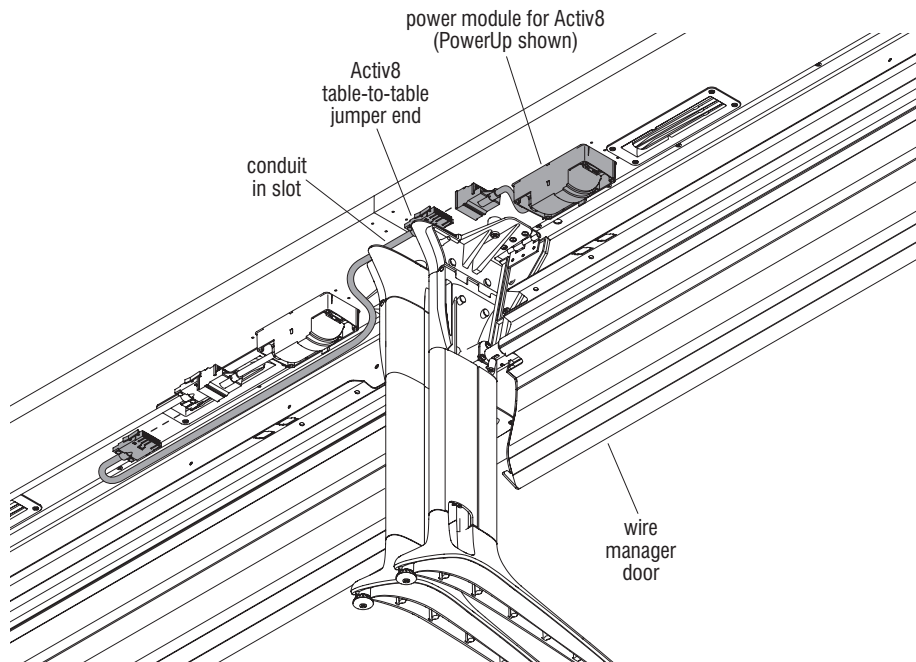

Figure 8
1. Open the wire manager door of each table (Figure 8).
2. Snap the Activ8 table-to-table jumper ends into each table's power module for Activ8 (PowerUp module shown). Be sure the clip engages on each jumper for a secure fit. Position the steel conduit of the jumper into the slot at the back, top of each table's leg as illustrated (Figure 8).